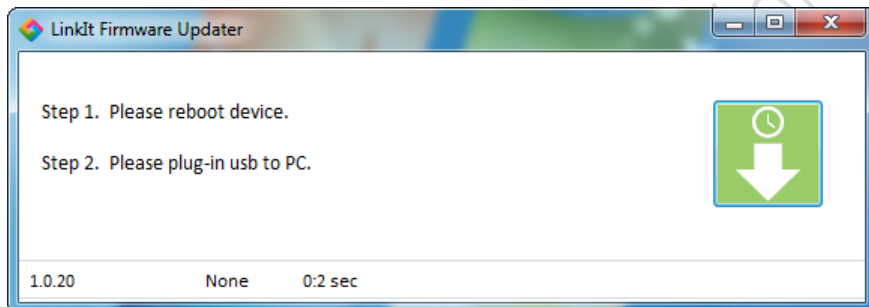

Figure 16 Instructions for upgrading a board's firmware are provided
- 4 Follow the instructions, see Figure 16, and disconnect LinkIt ONE from your computer and its power source. Then reconnect the power source and connect LinkIt ONE to your computer using a USB cable.